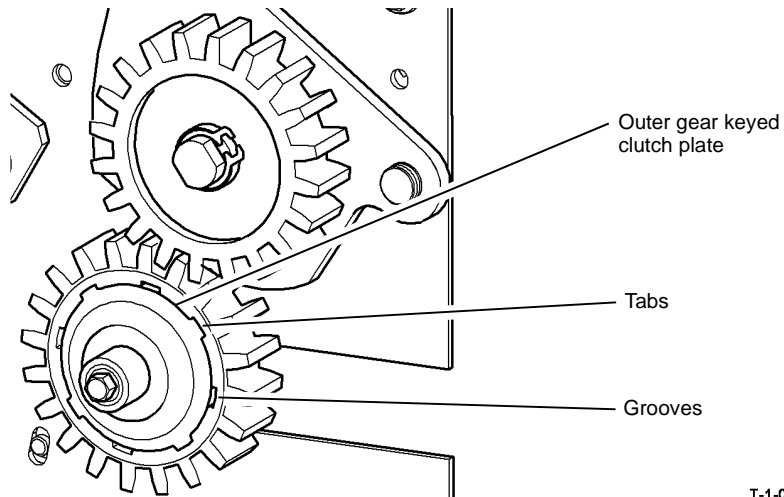

Figure 7 Outer gear keyed clutch plate
- c. **Figure 7**, Ensure that the tabs of the outer gear keyed clutch plate are not outside of the grooves in the gear.